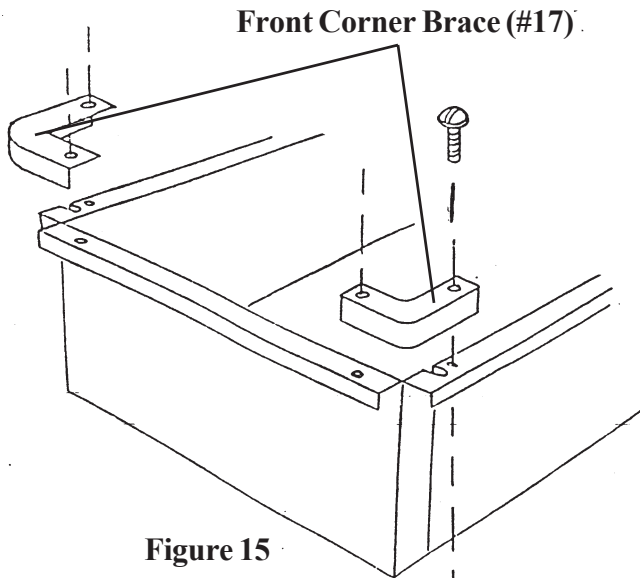

Figure 15
Step 15: Assemble the two Front Corner Braces (#17) to the corners of the Front Panel and the Side Panels (see Figure 15). For each Front Corner Brace use 2 Bolts (#21), 2 Washers (#23) and 2 Nuts (#24).